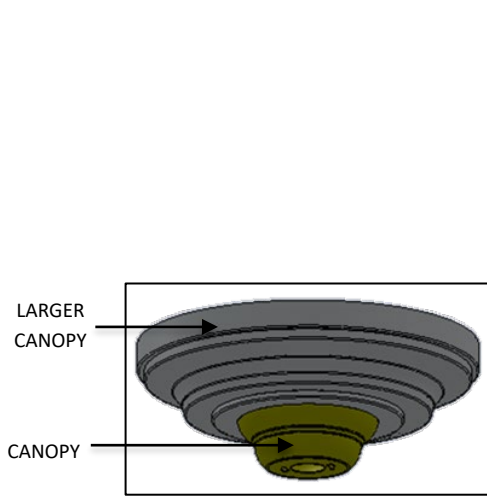

FIG.2 – LARGER CANOPY SUBASSEMBLY WITH CANOPY PREASSEMBLED
1. LARGE CANOPY SUBASSEMBLY. (with CANOPY Pre-assembled as shown in FIG. 2)